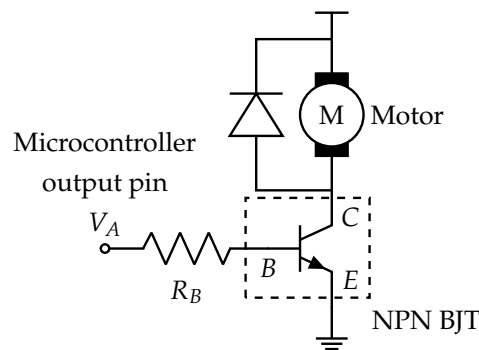

Figure 1: Motor Controller Circuit
In the lab project, you will be designing SIXT33N, a mischievous little robot who *might* just do what you want — if you design it correctly. In phases 1 and 2, you will build the **legs** of SIXT33N: you will be designing SIXT33N's wheels and developing a linear model for the car system. The wheels will be driven by two 9-Volt DC motors whose driver control circuit is shown in Figure 1.
The BJT in Figure 1 is switching between **ON** and **OFF** modes when V_A is HIGH and LOW respectively. The model for both ON and OFF states are shown in Figure 3. When the BJT turns on, V_{BE} can be modeled as a fixed voltage source with voltage value V_{BE0} . In ON mode, there is a **Current Controlled Current Source** modeled between "Collector (C)" and "Emitter (E)", i.e., current at the "Collector (C)" is an amplified version of current at the "Base (B)" (notice that positive I_B has to flow into the "Base (B)" for the relation $I_C = \beta_F I_B$ to hold). β_F is called the **Common-Emitter Current Gain**.
- (a) Draw the equivalent motor controller circuit when the BJT is ON by substituting in the BJT model from Fig. 3a into Fig. 1. Express I_B and I_C for $V_A = V_{A,HIGH}$ as a function of R_B .
- (b) Draw the equivalent motor controller circuit when the BJT is OFF by substituting in the BJT model from Fig. 3b into Fig. 1. Express I_B and I_C for $V_A = V_{A,LOW}$ as a function of R_B .